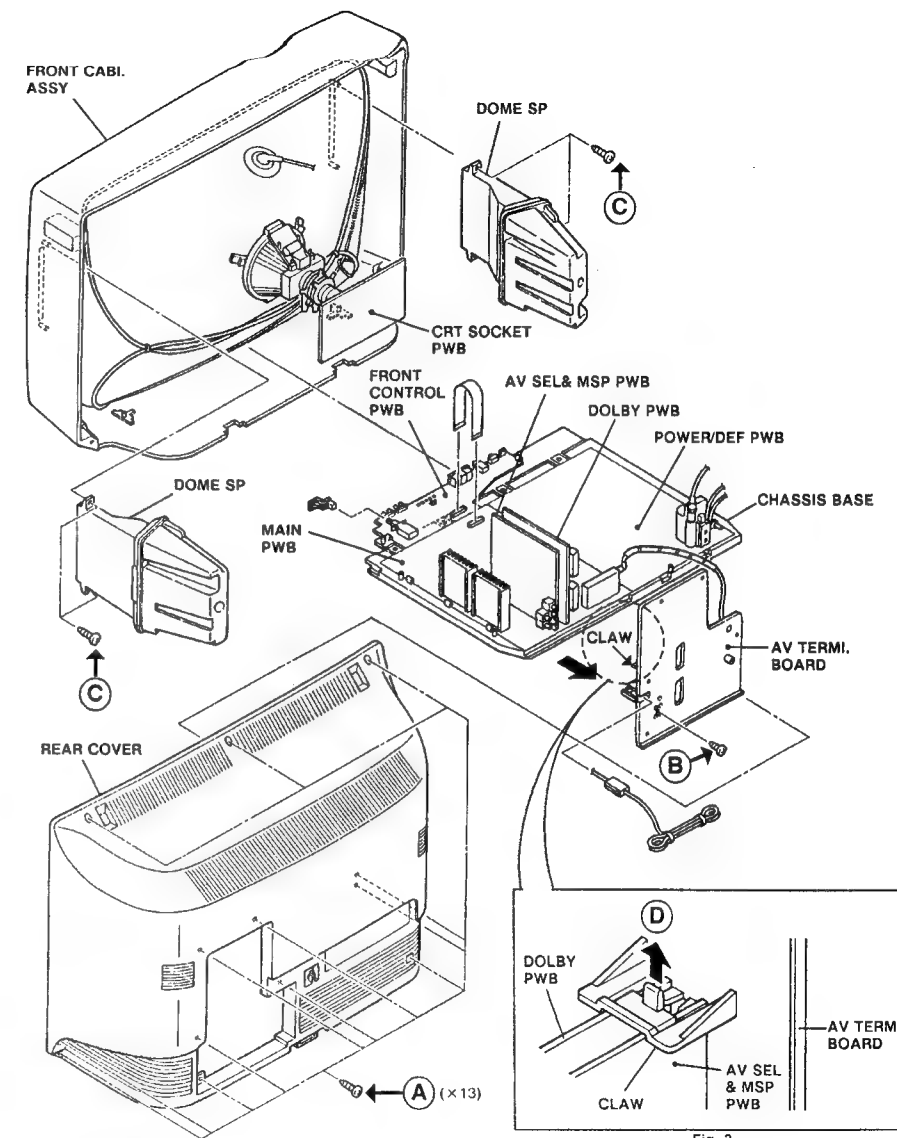

Fig. 2
1. Remove a screw marked (B) as shown in Fig. 2.
1. Remove the 2 screws marked (C) as shown in Fig. 2.
- When removing the screws marked (C) of the speaker box, remove the lower side screw first, and then remove the upper screw.